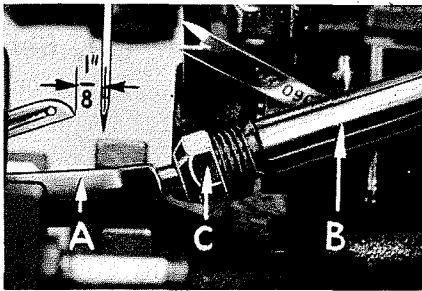
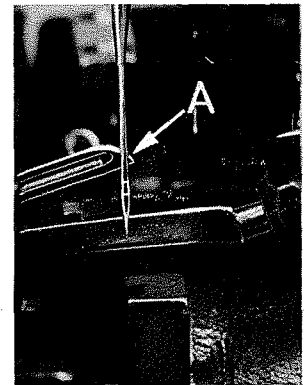

Fig. 5
Fig. 7
Insert the 503 stitch lower looper (A, Fig. 5) into bar (B). With lower looper at left end of its stroke set looper point $\frac{1}{8}$ inch from center of needle (Fig. 5) using looper gauge No. 21225- $\frac{1}{8}$. Do not have lower looper deflecting needle. Do not lock looper nut (C) because the looper point will have to be set to the needle scarf after the rear needle guard has been assembled and positioned. (See paragraph under "Final Setting of Lower Looper.")
Now finish lower looper adjustment. As lower looper moves to the right its point should be set into the needle scarf (A, Fig. 7) until the needle springs forward from the rear needle guard surface another .002 to .004 inch. This setting is obtained by rocking the looper forward or backward around its shank. Recheck the $\frac{1}{8}$ inch looper gauge setting and tighten nut (C, Fig. 5).